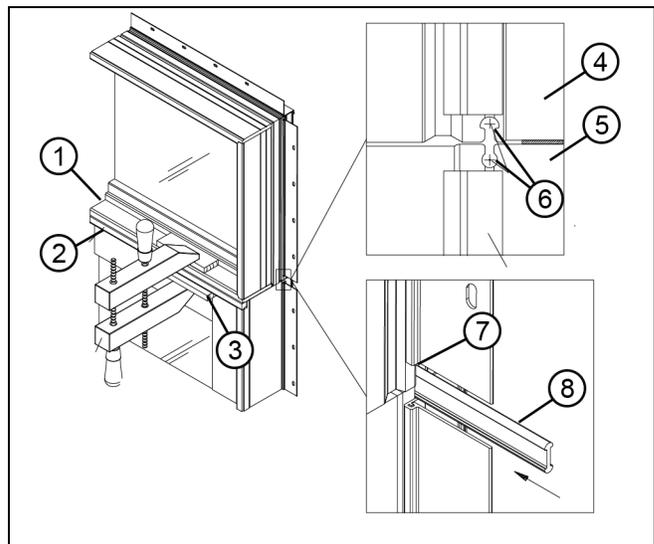

Figure 22
2. Position the rectangular transom on the head jamb of door. Check to be sure that both ends of the transom sill are flush with door head jamb. Apply clamps to interior side at each end of head jamb and sill to prevent movement. Use scrap pieces of wood to prevent marring of wood surface. Make sure that nailing fin/drip cap kerfs line up on both ends. See Figure 22. Drill the outer edges of mull kerf located at one side at head jamb of door and sill of transom with a 3/16" (5) drill bit as shown in Figure 22. This will allow easy application of mulling pin. Be sure to clean filings from the drilled area prior to mull pin installation.